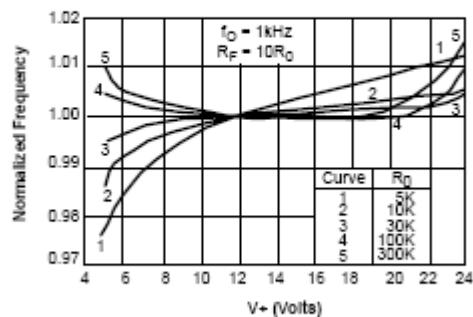

Figure 8. Typical f₀ vs. Power Supply Characteristics
- Calculate value of C_0 from design equation (1) or from *Figure 8* $f_S = f_0$: